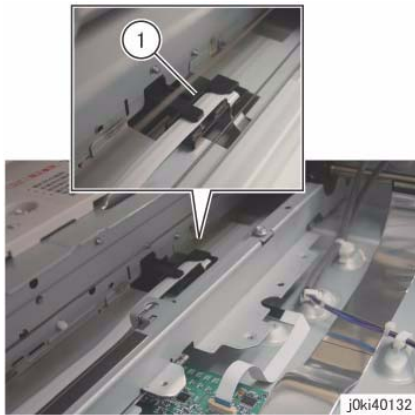

Figure 3 Remove the LED Lamp Wire Harness
7. Remove the LED Lamp Wire Harness from the Harness Holder. (Figure 3)